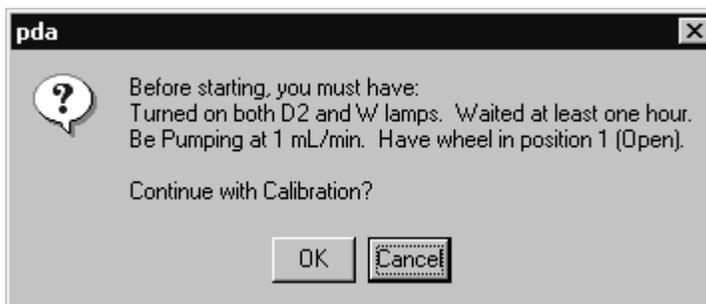

Figure 5.11 Dark Current Calibration Start
4. Press the Execute button. An information box opens (Figure 5.11) to remind you of the necessary pre-conditions.